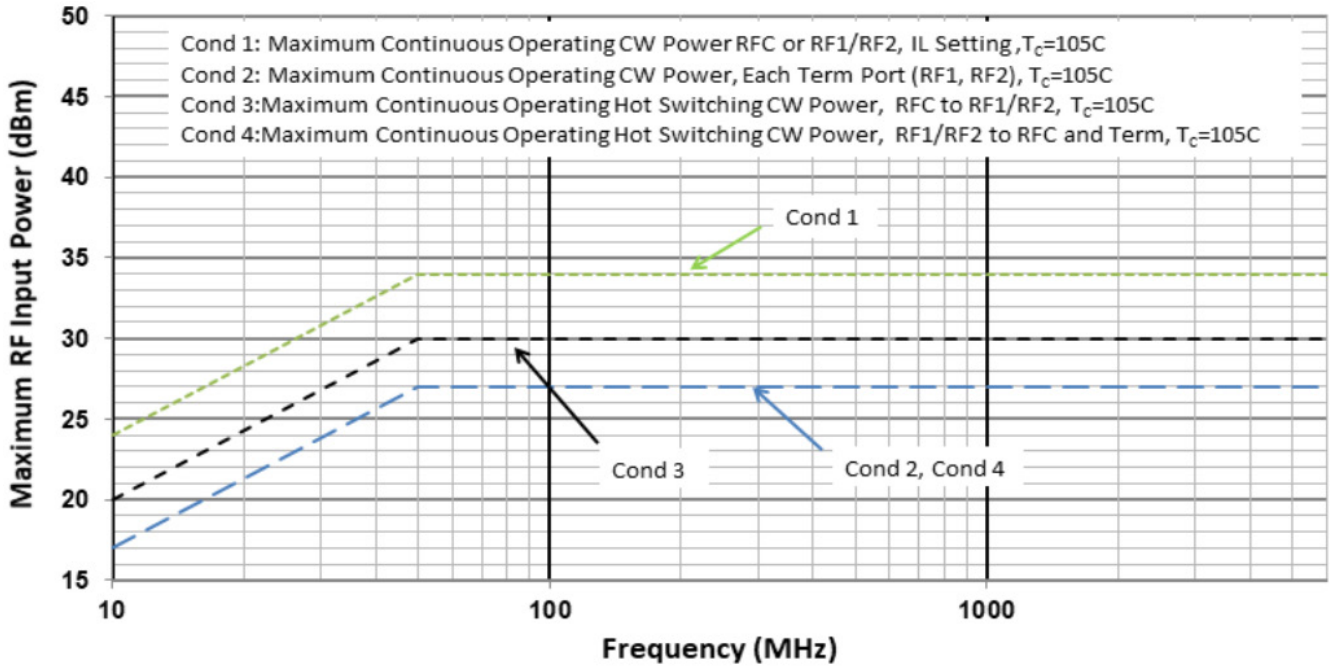

Figure 2. Maximum RF Input Operating Power vs. Frequency
1. Levels based on: $V_{DD} = 3.1\text{V to } 5.25\text{V}$, $250\text{MHz} \leq F_{RF} \leq 6000\text{MHz}$, $Z_S = Z_L = 50\Omega$. See Figure 2 for power handling derating vs. RF frequency.